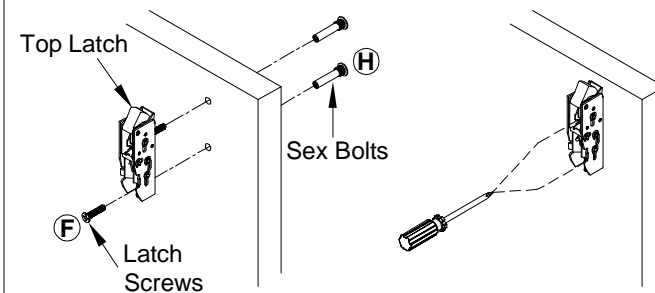

Figure 1
1. Install top latch with two(2) screws (sex bolts). Adjust strike so that device latches without binding. **See Figure 1**